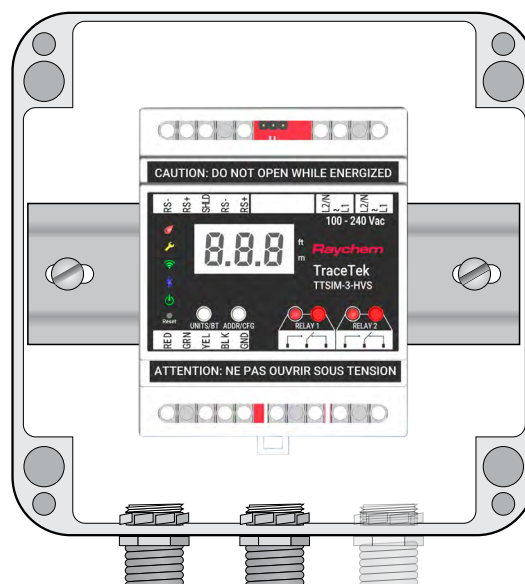

Figure 2. NEMA 4x Enclosure Mount
- A typical outdoor or harsh environment installation will require up to three holes in the Raychem TraceTek TTSIM-ENC: one for inbound power and telemetry, one for outbound power and telemetry and one for the sensor cable leader. See Figure 2.